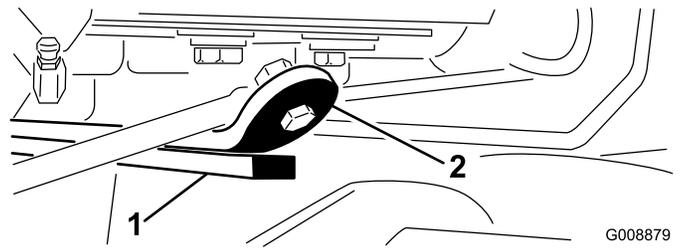

Figure 9
3. Start the engine, raise the cutting units, and check to make sure that the clearance between the wear strap on the top of the rear cutting unit wear bar and the bumper strap is 0.51 to 2.54 mm (0.02 to 0.10 inch) as shown in Figure 9.